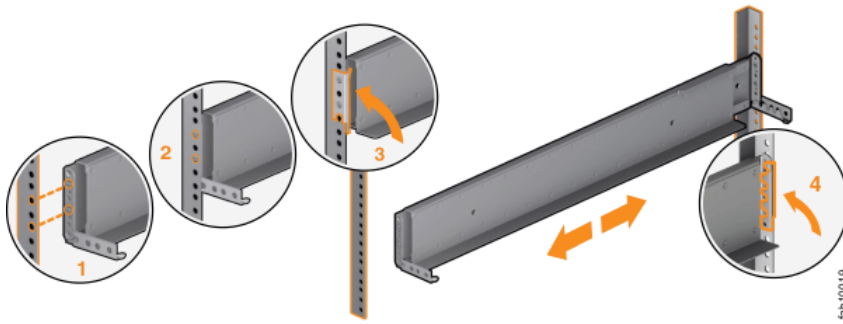

Figure 32. Closing the hinge brackets
9. Close the rear hinge bracket to secure the rail to the rack cabinet flange. (See Figure 32 on page 68.)
See Figure 32 on page 68.